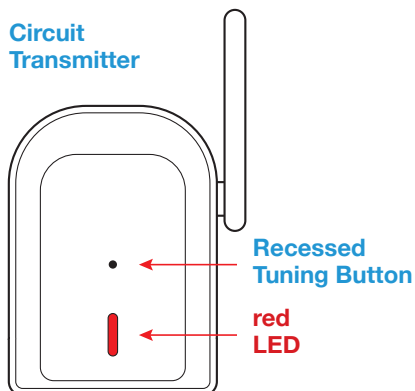

fig.3
5. While the **red LED** on the Transmitter is flashing press and hold the syncing button on top of the SmartHub (see page 7) until the **red LED** on the SmartHub flashes, then release the button. You should now see the word 'Sensor' flashing on the display (fig.3).